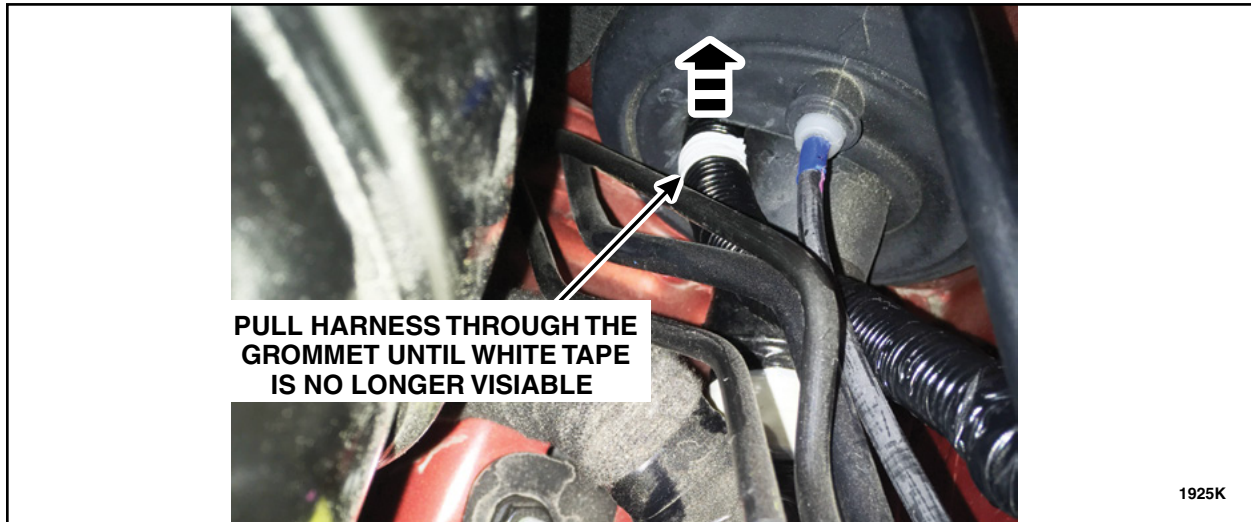

FIGURE 11
13. Route the harness inside the passenger compartment. Pull harness through until the white tape is inside the grommet. See Figure 11.